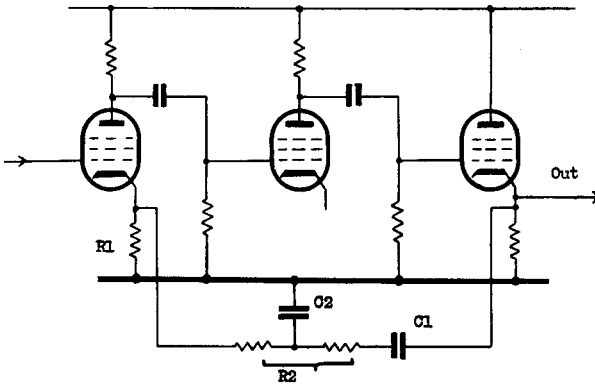

Fig. 2.
Figure 2 shows the circuit diagram. An usual with BATC circuits, values are not critical and standard parts are used wherever possible. Possible economies in valves and components have been sacrificed in order to make the unit easily serviced and set up with a minimum of test gear.
H.F. response can also be controlled by judicious use of NFB ; a small capacitor of the order of a few pF across  $R_2$  will apply more feedback at high than at mid-frequencies, tending to cause the frequency response to fall at high frequencies. If as more usually happens, a lift at H.F. is required, the feedback may be shorted to earth at H.F. by a small capacitor, best done by splitting  $R_2$  in two, and putting a small  $C$  to earth from the mid-point, as in Fig. 2. Splitting  $R_2$  so that  $C_2$  is  $1/3$  of the way along may give better results.